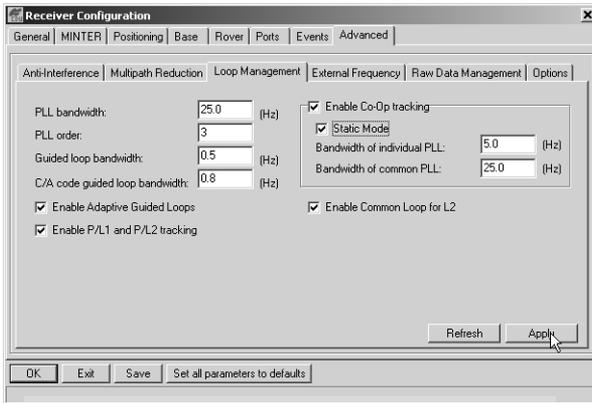

Figure 3-9. Advanced->Loop Management
4. Click the **Loop Management** tab and set the following parameters, then click **Apply** (Figure 3-9):